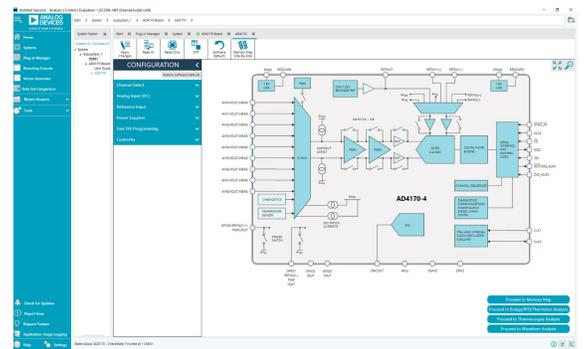

Figure 21. AD4170-4 Chip View
5. Click **Software Defaults** and then click **Apply Changes** to apply the default settings to the AD4170-4 (see Figure 21).